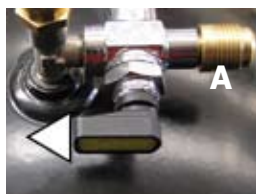
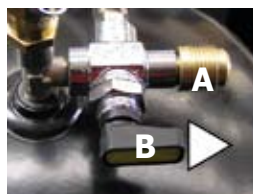

Fig. 1
Fig. 2
- Oil and UV tracer must be charged by means of the "Oil-UV" valve (fig.1), through which they will be drawn up due to the vacuum formed, before pressing the OK button for gas charge.
- Rotate the valve to the left (yellow side OIL) to charge the content of the bottle on the left (fig.2) which is used for oil.
- Connect the external cylinder to the service valve located in the upper part of the cylinder (Fig. 1 connection A). Open the valve of the external cylinder, rotate the valve on top of the unit's cylinder towards the outlet connector (Fig. 2 connection A), close the HP/LP valves then press "OK" to start the operation.
- Insert the special remover and press down firmly. (**Fig. 1**)
- Remove the snap Seeger rings (**Fig. 2**).